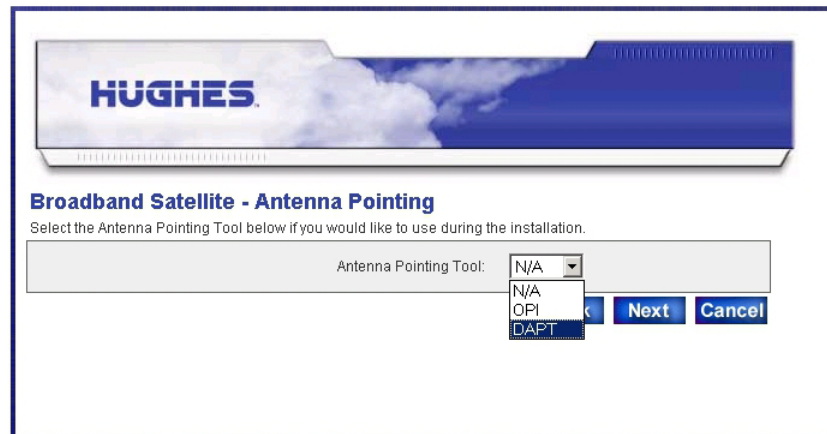

Figure 46: Antenna pointing screen
3. Click **Antenna Pointing**. The Antenna Pointing screen appears as shown in Figure 46 on page 60.